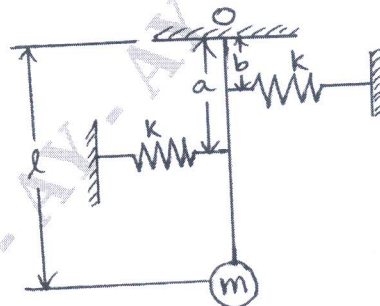

Fig.Q.3(b)
b. Determine the natural frequency of the system shown in Fig.Q.3(b), using Newton's method. (10 Marks)